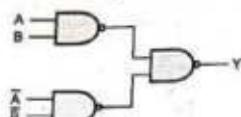

Fig. 4.7.28
**Solution :** The Boolean expression for EX-NOR gate is  $y = AB + \bar{A}\bar{B}$ . We can implement AND-OR logic by using NAND-NAND logic as shown in Fig. 4.7.28.